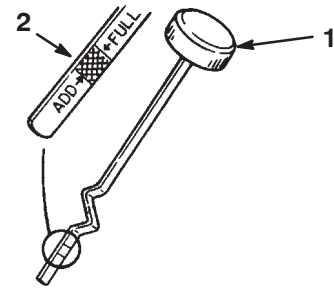

Figure 15
8. Unscrew the oil dipstick and wipe the metal end clean (Fig. 15).